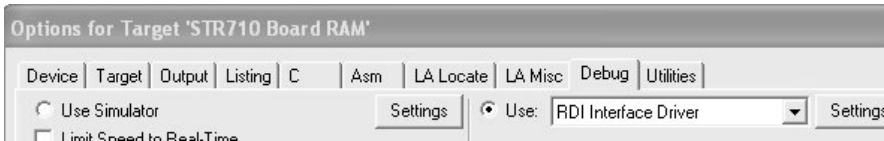

FIGURE 16 Selecting the driver type for uVision3.
1. From the Project menu choose Options For Target. The Options for Target dialog box appears. In the Debug tab, check Use RDI Interface Driver (Figure 16.)